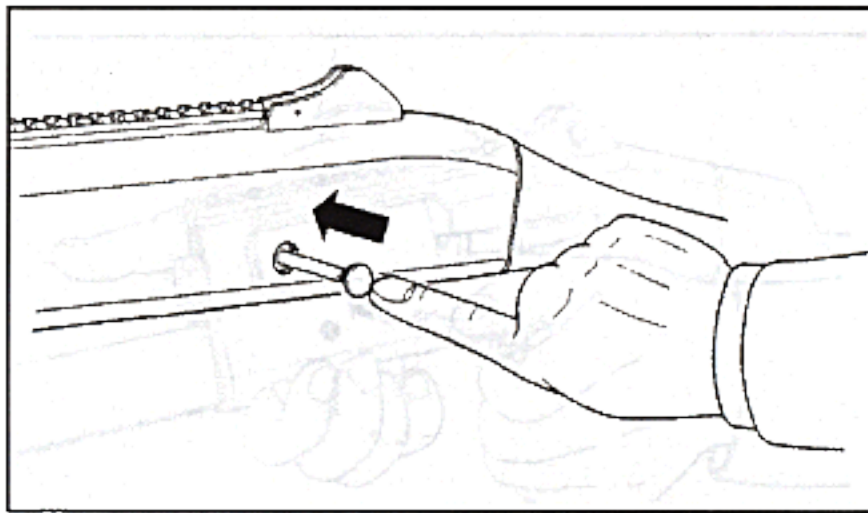

Figure 38. Push trigger group locking pin into secure trigger group
3. **Seat trigger group locking pin** – Press the trigger group locking pin fully to secure the trigger group in place (Figure 38).